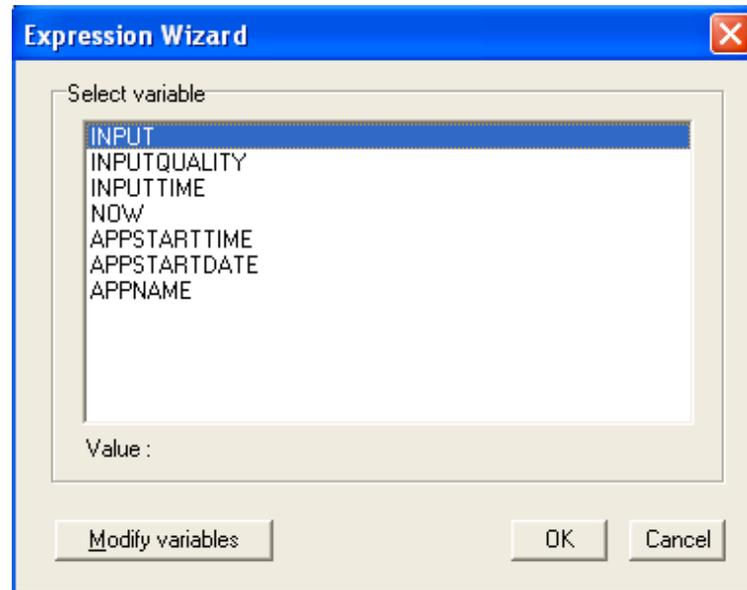

Figure 24 - Select Variable Window
- Click on the **Variable** button to go to the **Select variable** (Figure 24) window. After selecting the required variable, click on the **OK** button to close the **Select variable** window and return to the **Expression Wizard**.